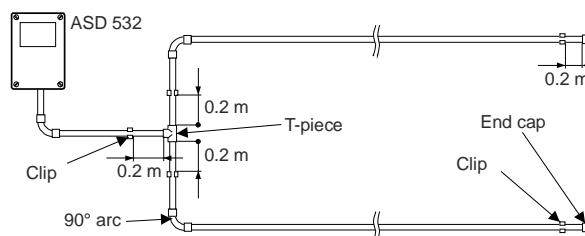

Fig. 9 90° bend, branching point
- A distance of at least 0.2 m must be maintained from the T-piece to the clips, starting from the branching points of the sampling pipe, **Fig. 9**.